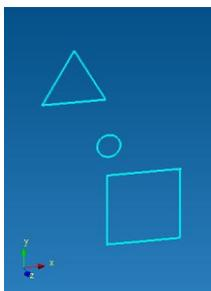

Fig. 2.7.13
Let us consider the map points command using an example of a surface, which generating sections are a triangle, a circle and a square (Fig. 2.7.13 - Fig. 2.7.16)
- Fig. 2.7.13 Initial sections for creation of a surface with use of the Lofting command